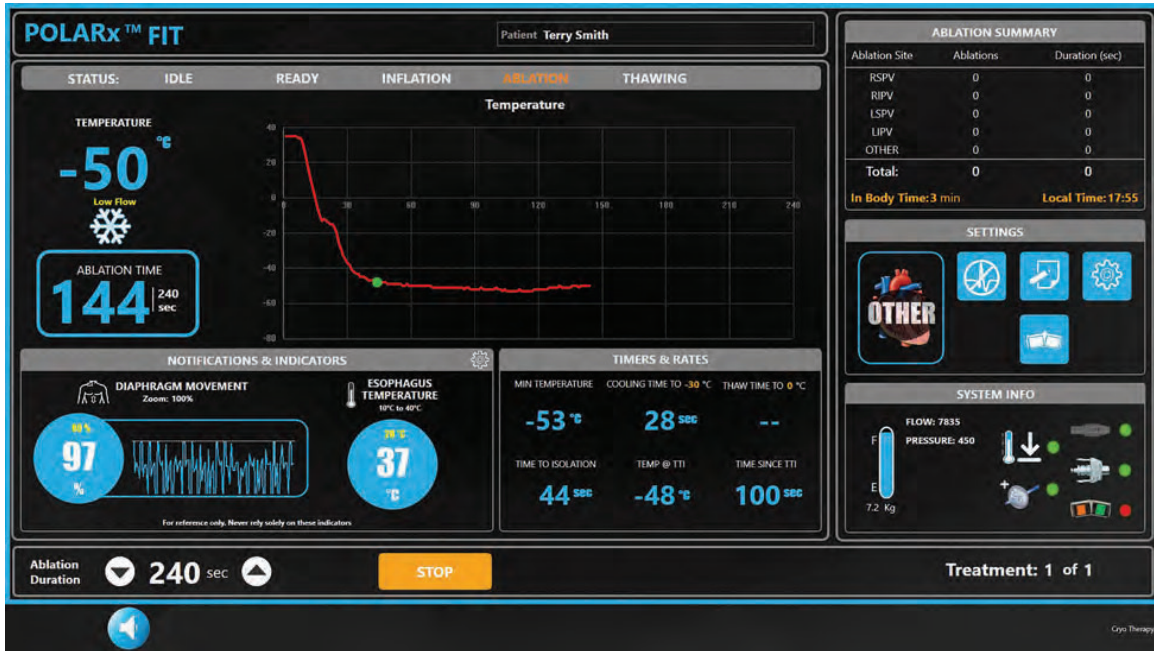

Figure 34. Therapy Screen - **ABLATION** state in low flow with larger cryoballoon
- See Figure 34 for an example of an **ABLATION** state low flow with the larger cryoballoon.